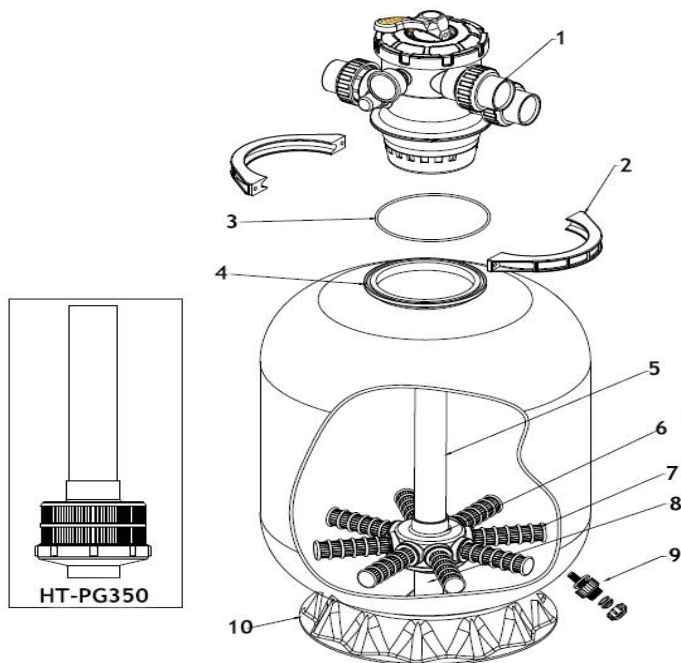

Figure 2
2. The laterals are damaged. (Please see Figure 2, item No.7-Laterals).	2. If water outlet pipe also leaking, that means the laterals are broken, please replace these. (See Figure 2, item No.7-Laterals)